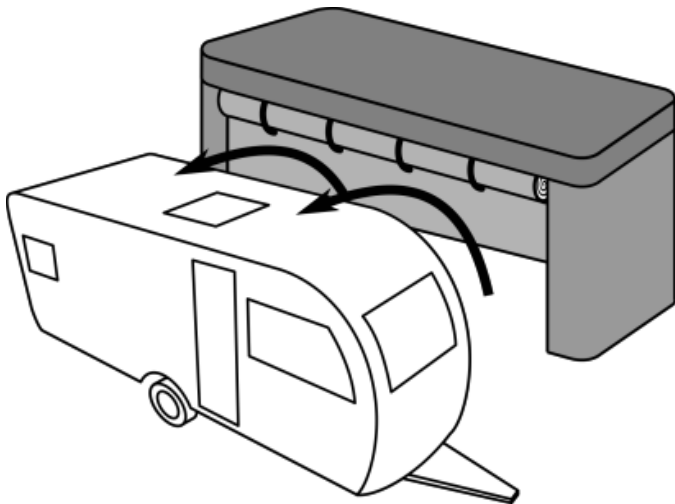

Figure 1: Pulling the protective cover over
- Now lift the protective cover with the open side over the left hand side of the caravan / mobile home, Figure 1. Use the fitting aids.